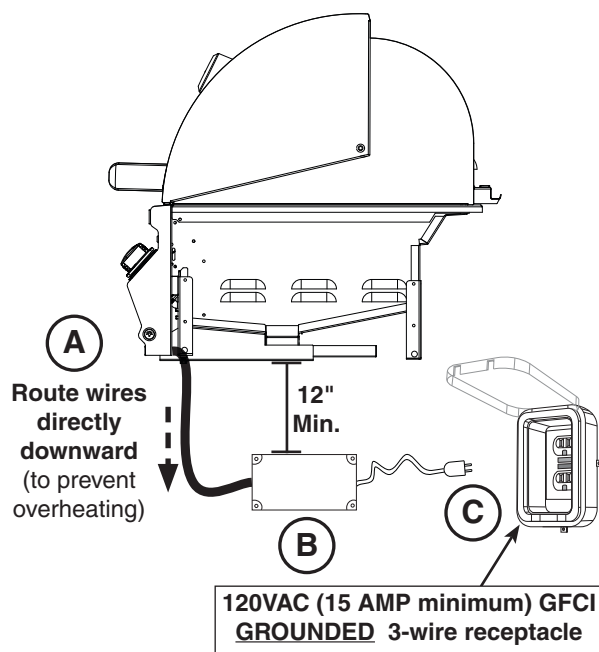

Fig. 25-1 Electrical installation
1. Route the wire harness extension below the control panel and directly downward. This will prevent overheating. **DO NOT** route the wire extension below the grill. See Fig. 25-1, A.
2. Mount the power supply to the inside of the enclosure using appropriate hardware for your enclosure. It **MUST** be located at least 12 inches below the bottom of the unit. See Fig. 25-1, B.
3. Connect the cord coming from the power supply to a **120VAC (15 AMP minimum) GFCI GROUNDED 3-wire receptacle** (see Fig. 25-1, C). The GFCI receptacle must be a WEATHER-PROOF IN-USE COVERED RECEPTACLE.